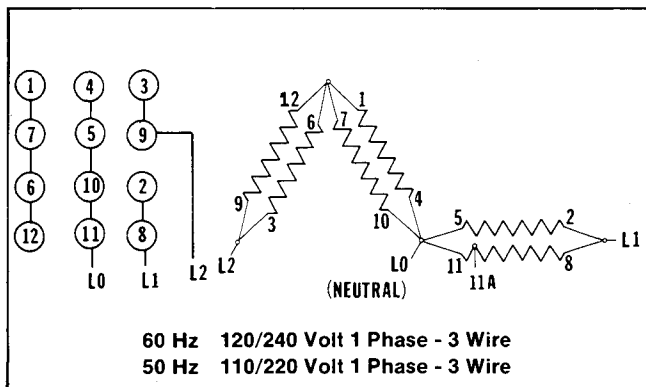

Figure 3
**CHANGE:** Reconnect generator leads as shown in Figure 3. Install current transformers, replace safeguard breaker if required, and reconnect small leads V0, V1, V2, 8, 11, 8B and 10B as shown in Figure 9. Wires V3 and T3 are not used. Rewire selector switch and connect lead from hourmeter to upper scale indicating lamp in Decision Maker upper cabinet as shown in Figure 10. Replace ammeter if required.
**CHANGE:** Reconnect generator leads as shown in Figure 3. Install current transformers, replace safeguard breaker if required, and reconnect small leads V0, V1, V2, 8, 11, 8B and 10B as shown in Figure 9. Wires V3 and T3 are not used. Rewire selector switch in Decision Maker upper cabinet as shown in Figure 10. Replace ammeter if required.